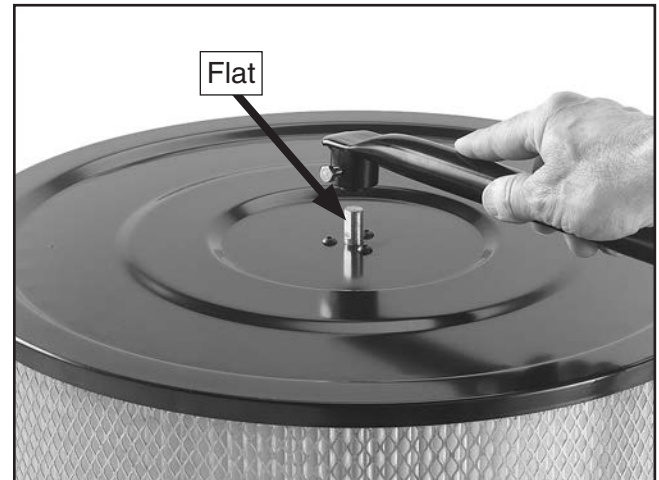

Figure 22. Installing canister handle.
- a. Install the canister handle onto the top of the canister filter by tightening the bolt against the flat of the shaft (see **Figure 22**).